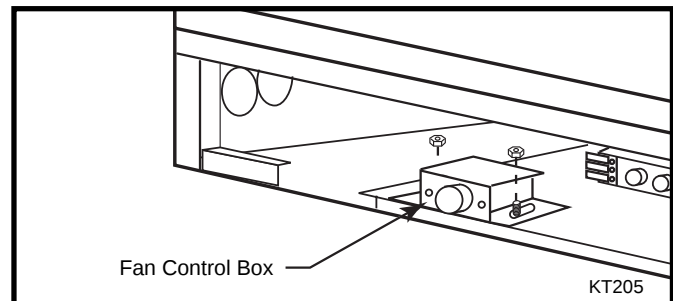

Fig. 60 Remove fan control box.
- Remove the Fan Speed Control Box (Fig. 60)